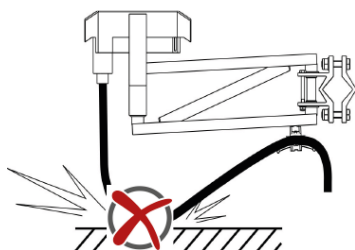
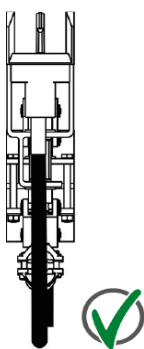

Fig. 115: The connecting cable must not be laying downward
Fig. 121: Connecting cable is not twisted
- Make connecting cable straight and highly flexible in order to avoid deflection, pulling or pressing on the sliding contacts or movement restrictions of the current collector (see Fig. 115 to Fig. 121).
- Pay attention to the selection of the connecting cable and to a correct and tension-free laying of the connecting cables (see Fig. 115 to Fig. 121).